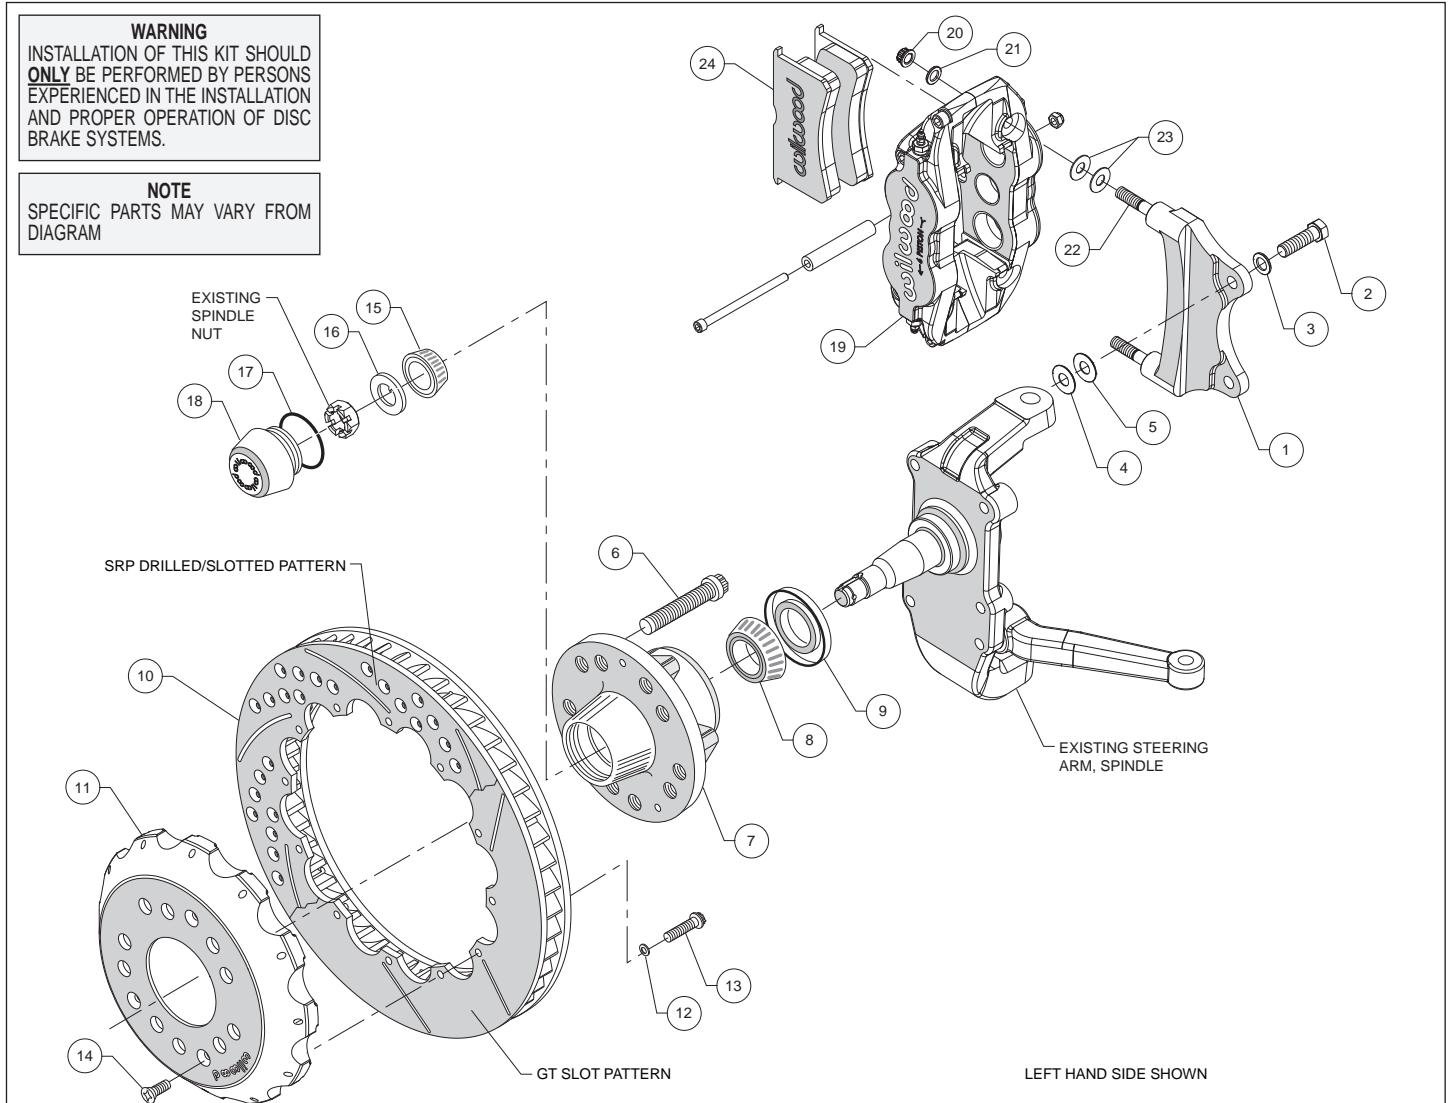
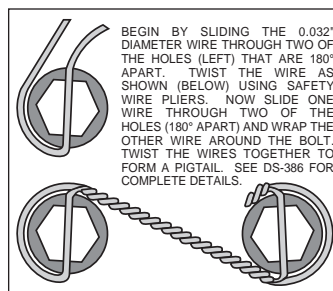

Figure 1. Typical Installation Configuration
Figure 3. Safety Wire Diagram
Assembly Instructions (numbers in parenthesis refer to the parts list on the preceding page, and Figure 1):
- The caliper mount bracket (1) should initially be installed with clean, dry threads on the mounting bolts. Orient the bracket as shown in Figure 1, and install using bolts (2) and washers (3). Initially place one each .016" thick shim (4) and .030" thick shim (5) on each bolt between the bracket and upright, Figure 1 and Photo 1. Temporarily tighten the mounting bolts. **NOTE: The bracket must fit squarely against the mount bosses on the upright.** Inspect for interference from casting irregularities, machining ridges, burrs, etc. Later, after the caliper alignment has been checked, the mount bolts will be secured using red *Loctite*[®] 271.
- Pack the large inner bearing cone (8) with high temperature disc brake bearing grease (available from your local auto parts store) and install into the backside of the hub (7), Photo 3.
- Install the grease seal (9) by pressing into the backside of the hub (7), flush with the end of the hub, Photo 3.
- Orient the rotor (10) and the hat (11) as shown in Figure 1 and Photo 4. Attach rotor to hat using bolts (13) and washers (12). Using an alternating sequence, apply red *Loctite*[®] 271 to the threads, and torque to 155 **in-lbs**. For an added measure of security, the bolts may be safety wired using standard 0.032 inch diameter stainless steel safety wire as shown in Figure 3.
- Slide the hat/rotor assembly (10/11) onto the hub (7) taking care to align the small countersunk holes in the hat (11) with the small threaded holes in the hub. **NOTE:** The hat must fit flush against the hub face or excessive rotor run out may result. Install three flat head screws (14) through the small holes in the hat (11), Photo 6, and torque to 85 in-lb.
- NOTE:** This kit contains distinct right and left hand calipers that must be mounted in a specific direction, as described below. Lubricate the caliper mounting studs (22) with lightweight oil. Initially place two .035" thick shims (23) on each stud between the caliper and the bracket, as shown in Figure 1 and Photo 7. Mount the caliper (19) onto the bracket (1) using lock nuts (20) and washers (21), Figure 1. Ensure that the caliper is mounted so the largest pistons are at the rotor exit end of the caliper, in relation to the direction of rotor rotation. Temporarily tighten the lock nuts and view the rotor through the top opening of the caliper. The rotor should be centered in the caliper, Photo 8. If not, adjust by adding or subtracting shims (4 and/or 5) between the bracket and the upright. Always use the same amount of shims on each of the two mounting bolts. Once the caliper alignment is correct, remove the bracket mounting bolts one at a time, apply red *Loctite*[®] 271 to the threads, and torque to 55 ft-lb.